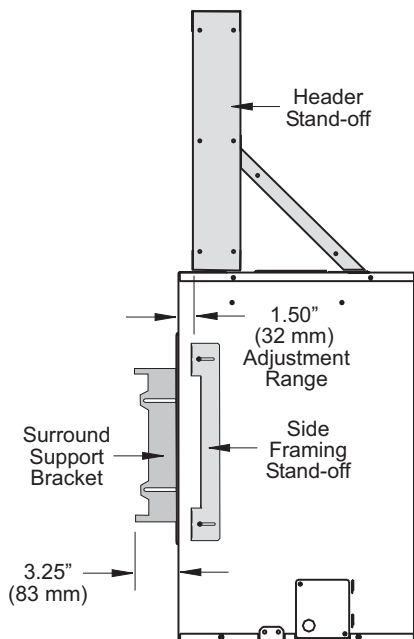

Figure 4.4.
2. Attach the Stand-off assembly upright to the front of the cabinet top using the four existing screws. Adjust the position of the Stand-off to accommodate the thickness of the non-combustible facing material. See Fig. 4.4.
The fireplace cabinet can accommodate finished wall material thickness up to a total of 3 1/4" by adjusting the surround support brackets to maximum extension. See Fig. 4.4.